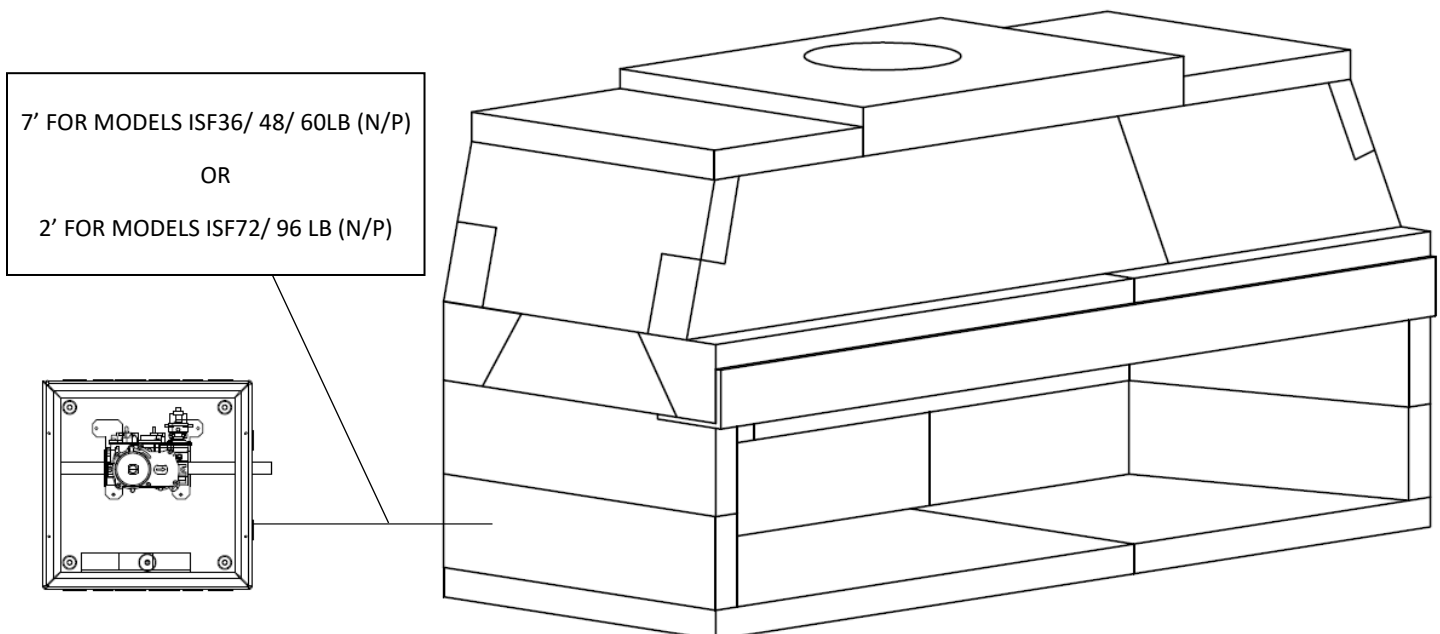

FIGURE 36
- 1) The valve control box comes with an 110" pilot assembly lead; therefore, the box must be mounted within 7' of the fireplace for models ISF36/48/60LB and within 2' for models ISF72/96LB. Valve and controls are contained in a 12" x 12" x 4" NEMA 1 enclosure (**Figure 36**)